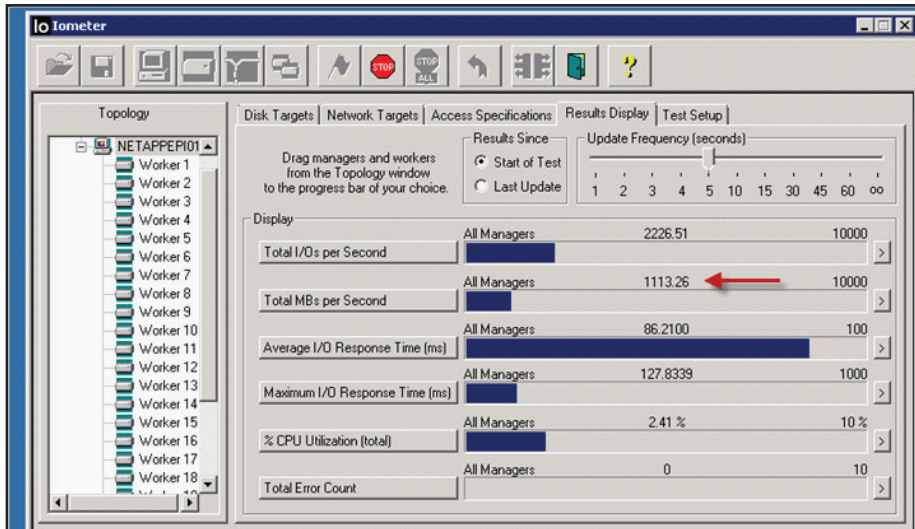

Figure 95
13. Figure 95 shows the results screen.